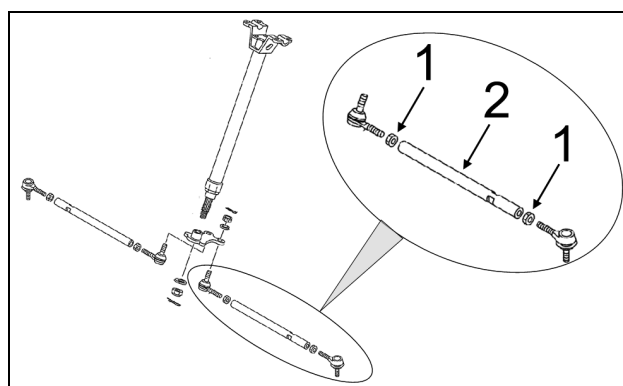

Figure 17
To adjust the ATV's steering system, first loosen coupling rod nuts (1), then screw or unscrew the coupling rod (2) an equal number of revolutions on both sides of the vehicle. Re-tighten nuts when adjustment is complete. See Figure 17.
**CAUTION: Remember that some nuts have reverse threads before loosening a coupling rod nuts (1) on the vehicle's steering system. Make sure to unlock the nut in the proper rotational direction.**